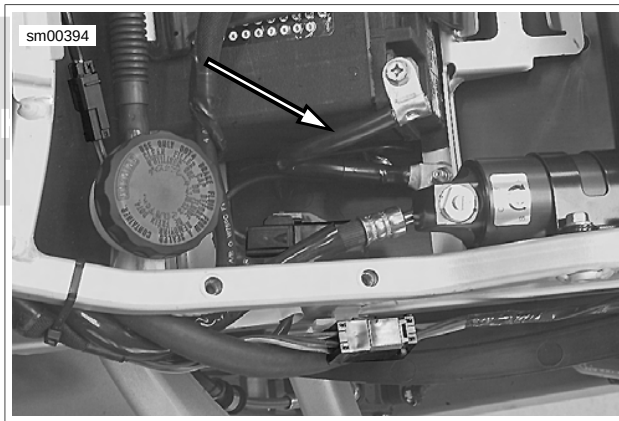

Figure 7-21. Negative Battery Cable (Typical)
2. See Figure 7-21. Remove fastener to detach negative battery cable from frame.
- c. See Figure 7-21. Attach negative battery cable to frame. Tighten to 48-72 **in-lbs** (5.4-8.1 Nm).